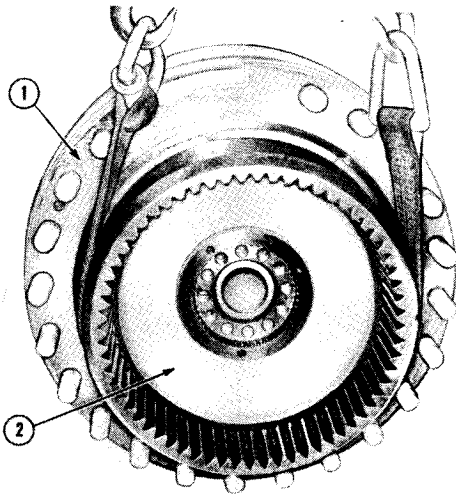

Figure 6-24
Start the ring gear and hub assembly (2, Fig. 6-24) on the axle spindle splines. Place a 4" x 4" wooden block across the ring gear and using a sledge or heavy mallet, drive the ring gear and hub assembly on the spindle until it bottoms in the wheel hub (1) bearing cup.